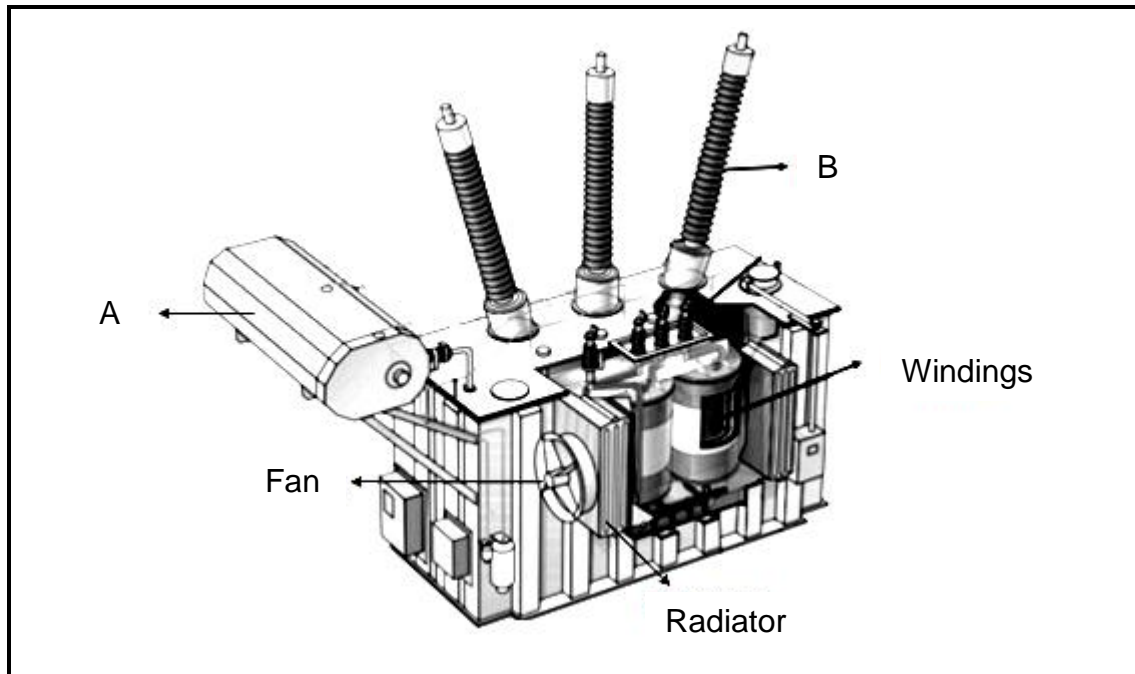

FIGURE 5.1: THREE-PHASE TRANSFORMER
- 5.1 FIGURE 5.1 below shows a three-phase transformer. Answer the questions that follow.